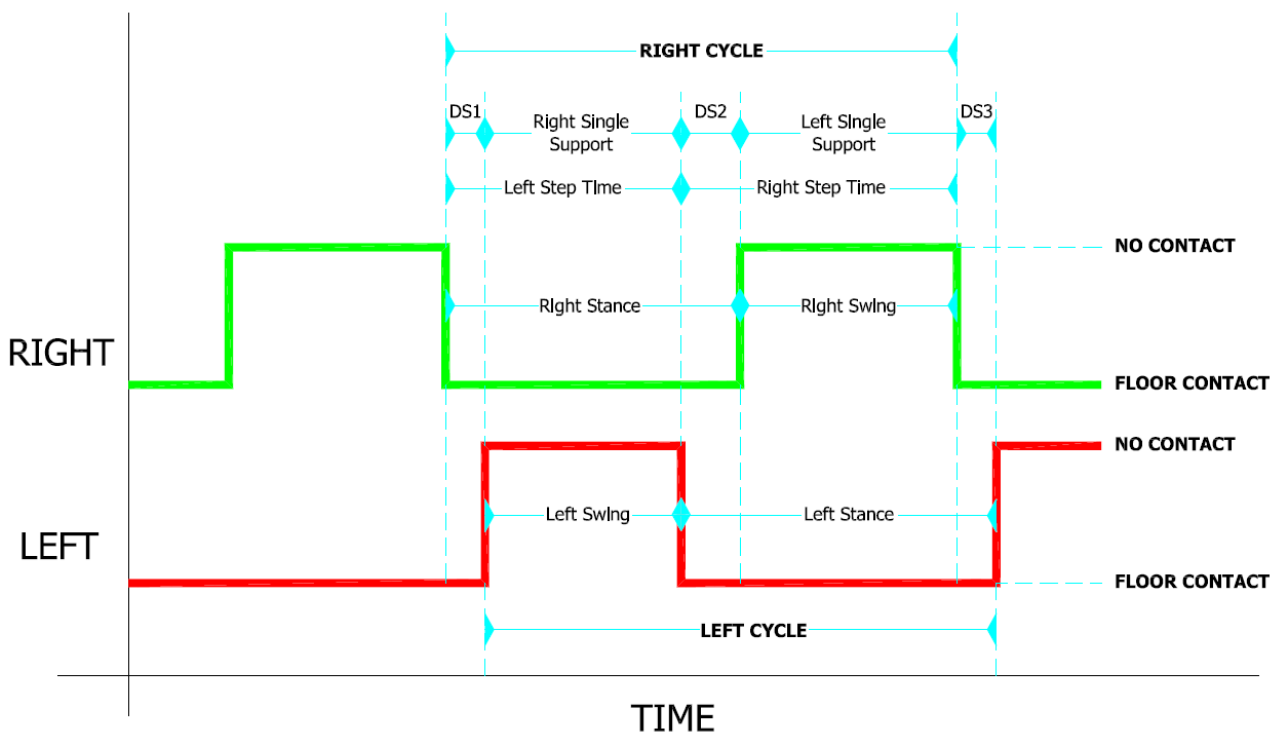

Figure 119 - Gait analysis terminology
- **Total Double Sup [s | %]:** This is the sum of two partial double supports, defined DS1 and DS2 in Figure 119
- **Load Response [s | %]:** This is the first Double Support Time (DS1 in Figure 119)
- **Pre Swing [s | %]:** This is the second Double Support Time (DS2 in Figure 119)